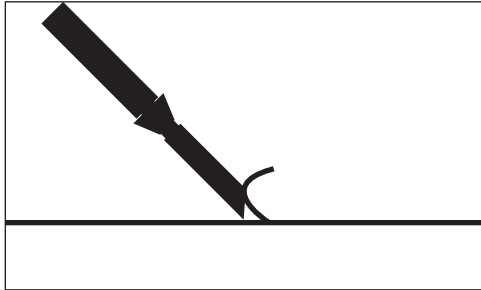
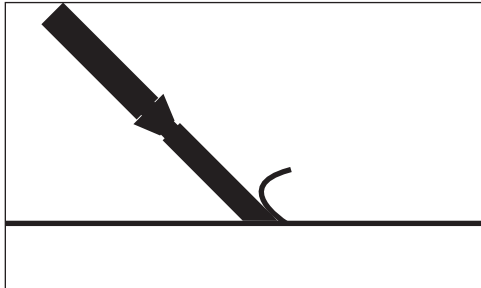

FIG. 4
FIG. 4.1
- Normally, bevel on the blade is up for concrete (Figure 4); bevel down for wood (Figure 4.1).